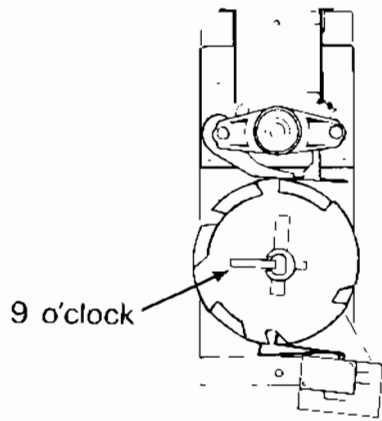

Fig. 7.
4. Install the vending cam onto the front shaft of the motor making sure the lock tab is at the 9 o'clock position. See Fig 7, pg. 22.